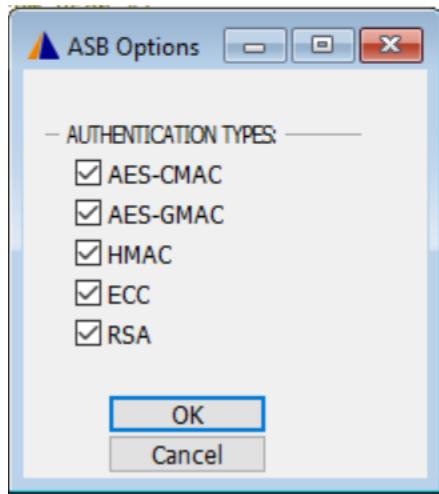

Figure 110. ASB Cipher Options
- This loads secure boot app symbols and check from which core and address was Advanced secure boot done as shown in Figure 110.